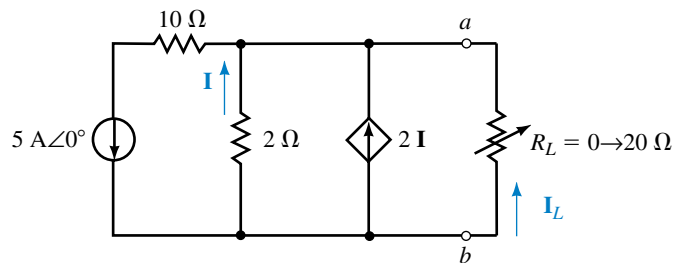

FIGURE 20–45
- Find the Thévenin equivalent circuit external to R_L in the circuit of Figure 20–45.